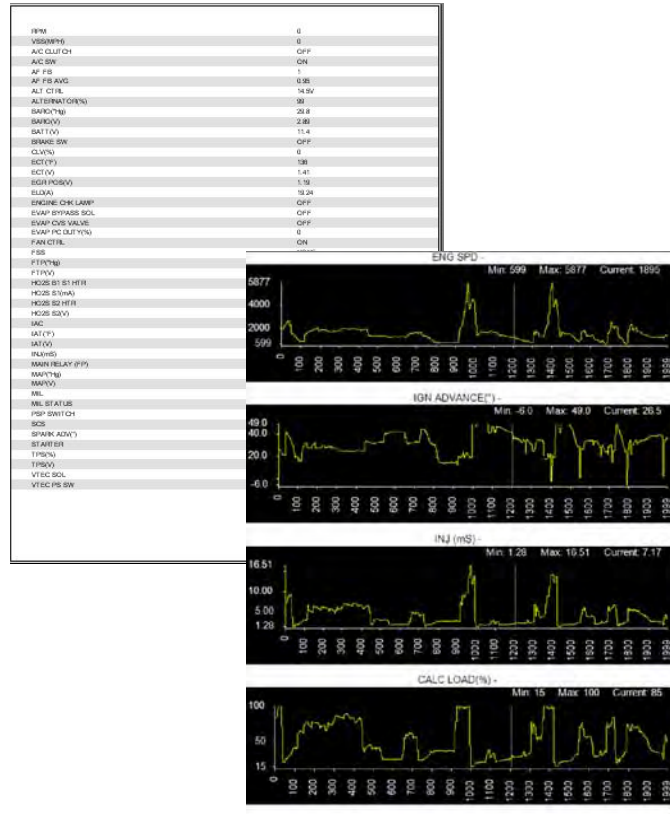

Figure 11-20 Print preview window (text list and graphs examples)
- b. If Print Preview was selected, a preview window opens. Select the printer icon (Figure 11-20) to send the file to the printer.